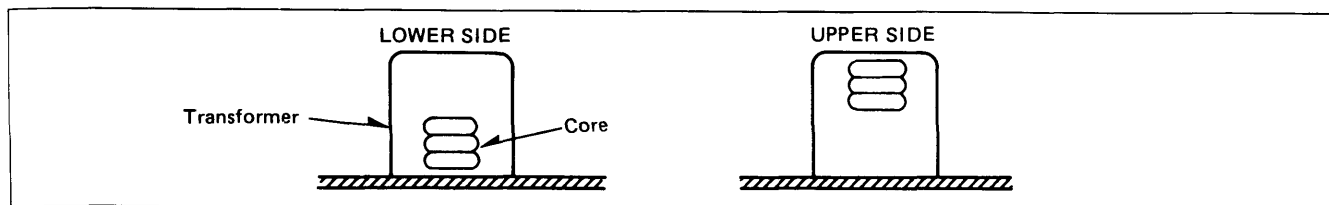

Fig. 20
2. Transformer core position. (Application for both Field Adjustment and General Alignment.) Unless otherwise noted, a transformer core which has two tuning peak points should be adjusted at the lower position as shown in Fig. 20.